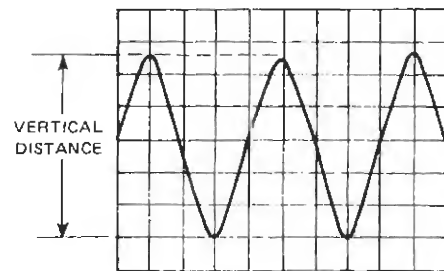

Figure 2-13. Peak-to-peak voltage measurement
2. Adjust the TIME/DIV switch (20) or (21) to display two or three cycles of waveform, and set the VOLTS/DIV switch (11) for the largest-possible totally-on-screen display.
3. Use the appropriate Vertical Position control (14) or (15) to position the negative signal peaks on the nearest horizontal graticule line **below** the signal peaks, per Figure 2-13.
4. Use the Horizontal Position control (24) to position one of the positive peaks on the central vertical graticule line. This line has additional calibration marks equal to 0.2 major division each.
5. Count the number of divisions from the graticule line touching the negative signal peaks to the intersection of the positive signal with the central vertical graticule line. Multiply this number by the VOLTS/DIV switch setting to obtain the peak-to-peak voltage of the waveform. For example, if the VOLTS/DIV switch were set to 2V, the waveform shown in Figure 2-13 would be 11.2V p-p ($5.6 \text{ div} \times 2\text{V}$).
7. If measuring a sine wave below 100 Hz, or a rectangular wave below 1000 Hz, set the AC/GND/DC switch (13) to DC.